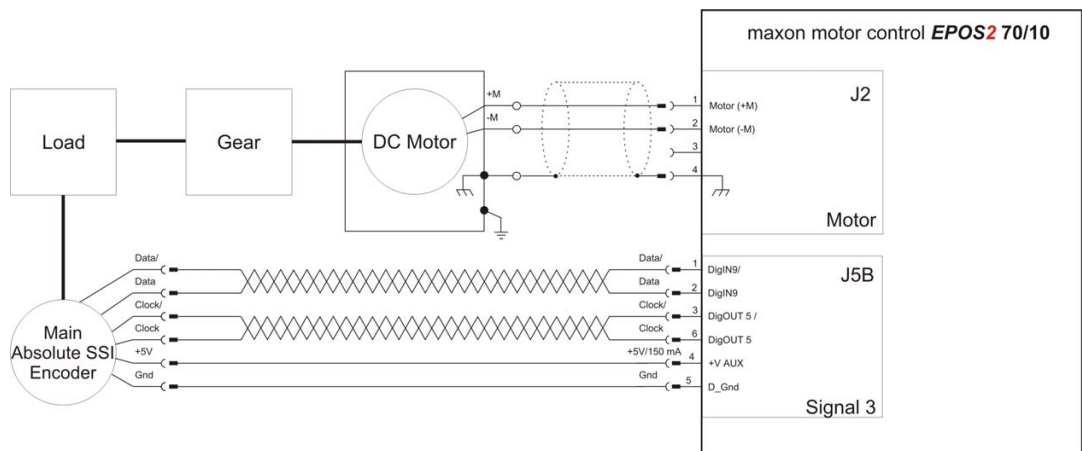

Figure 13-151 Example 1 – Wiring Diagram
- 1) Wire the system according to the wiring diagram (→Figure 13-151).